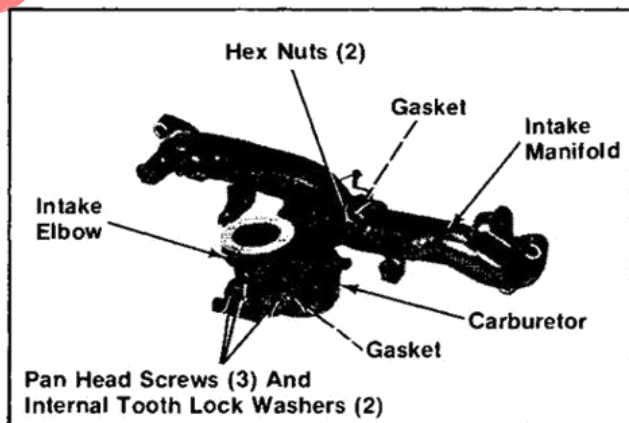

Figure 9-9. Removing Carburetor And Intake Elbow.
7. Remove the hex nuts, carburetor with intake elbow, and gasket from intake manifold. Refer to Figure 9-9.